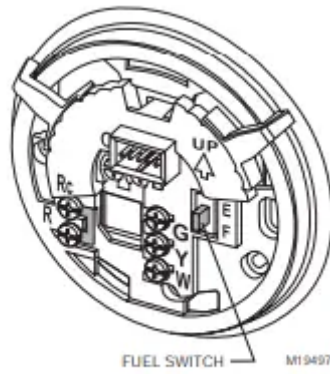

Fig. 7. Fuel switch.
- The fuel switch is preset at the factory in the F position. See Fig. 7. This is the correct setting for gas or oil systems. If the T8775C is being installed on an electric heat system, or a heat pump, set the switch to the E position. The E setting allows the fan to turn on immediately with the heating equipment in a system where the G terminal is connected.